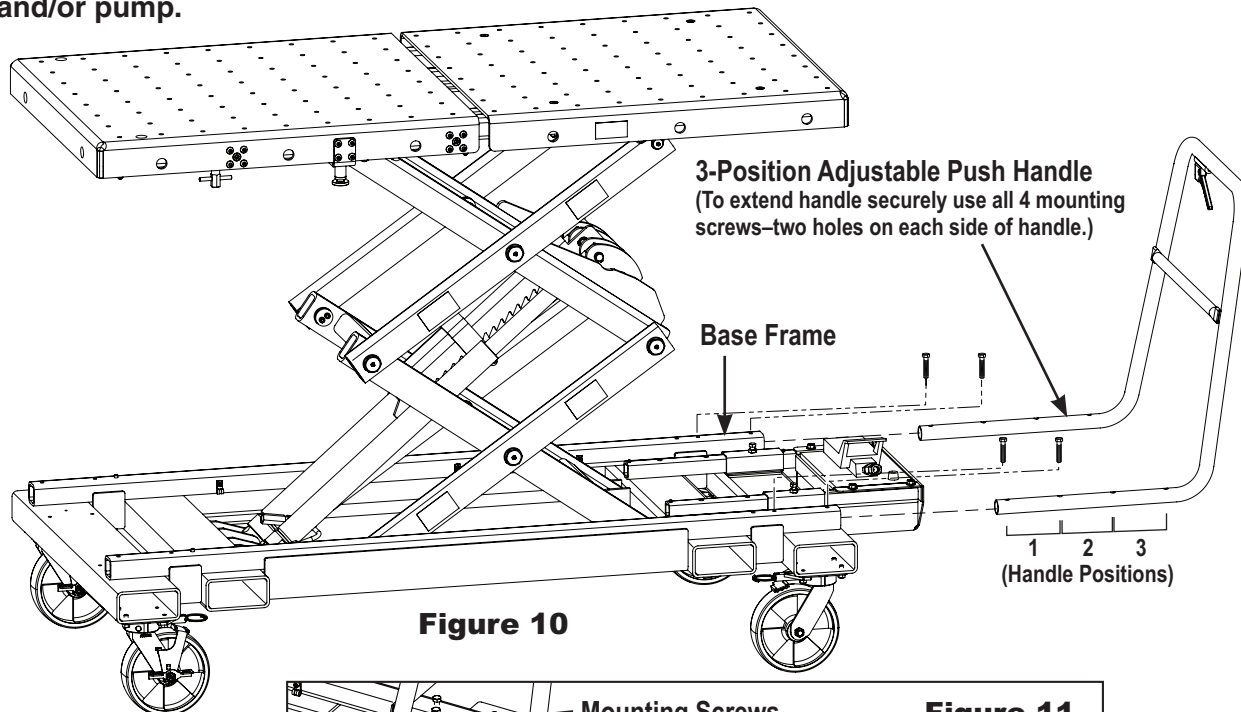

Figure 10
8. Open the carton and locate the Push Handle and its 4 mounting screws. Install the handle by inserting into the Base Frame. Thread mounting screws into holes and through aligning holes in the Push Handle tubing until screws are snug against the inside wall of the Push Handle tubing. Torque screws to 15 ft-lb (20 N•m). See Figure 10.
If the load extends beyond the platform it may be necessary to extend the pump supports and the push handle to avoid the load from obstructing the use of the handle or the pump. Ensure that all 4 of the supplied screws are engaged through the preset adjustment holes in both the handle and base frame at all times. Torque handle and pump support screws to 15 ft lb (20 N•m). See Figures 10 and 11.